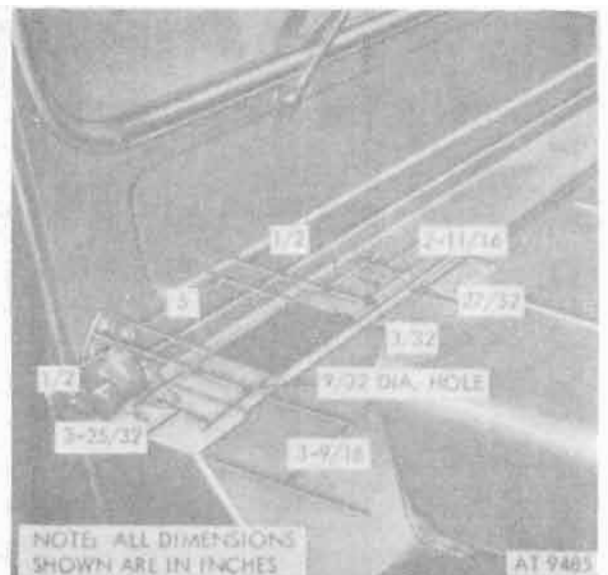

Figure 18-63. Cowl top panel drilling.
- a. Locate and drill four $9/32$ -inch diameter holes in cowl top panel (fig. 18-63).
b. Locate and cut out $5 \times 3-25/32$ opening in cowl top panel (fig. 18-63).